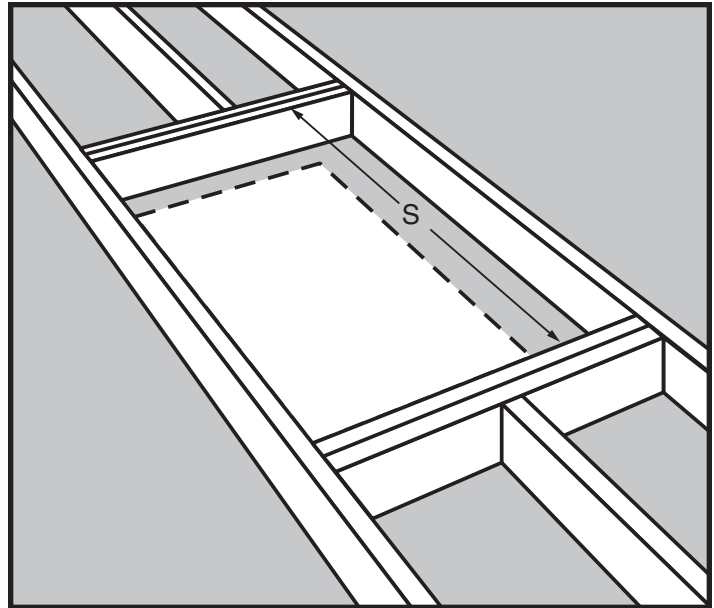

Figure 17
- STEP 1.** Measure the stringer length “S” between the headers (See Figure 17).
- STEP 3.** If the ceiling joist does not provide one side of the frame, then cut a second stringer the same length as the first one. Note that only one stringer is needed in Figure 17 because the ceiling joist provides one side of the frame.